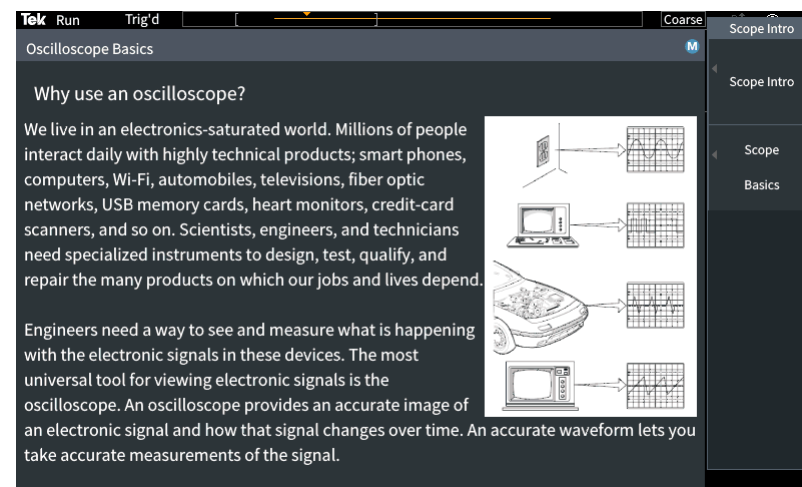

Figure 4. Using MPK to scroll through the content
5. Use the MPK to scroll through the content (Figure 4)